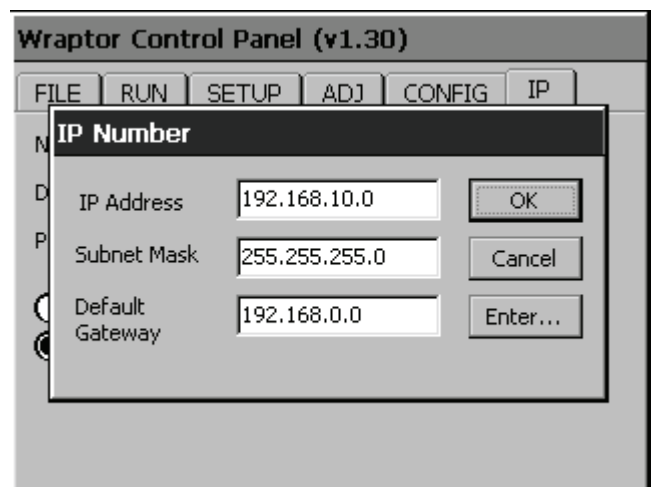

Figure 26. Fixed IP Address Entry
- Press the **Enter** button to display the keypad (*Figure 26*).